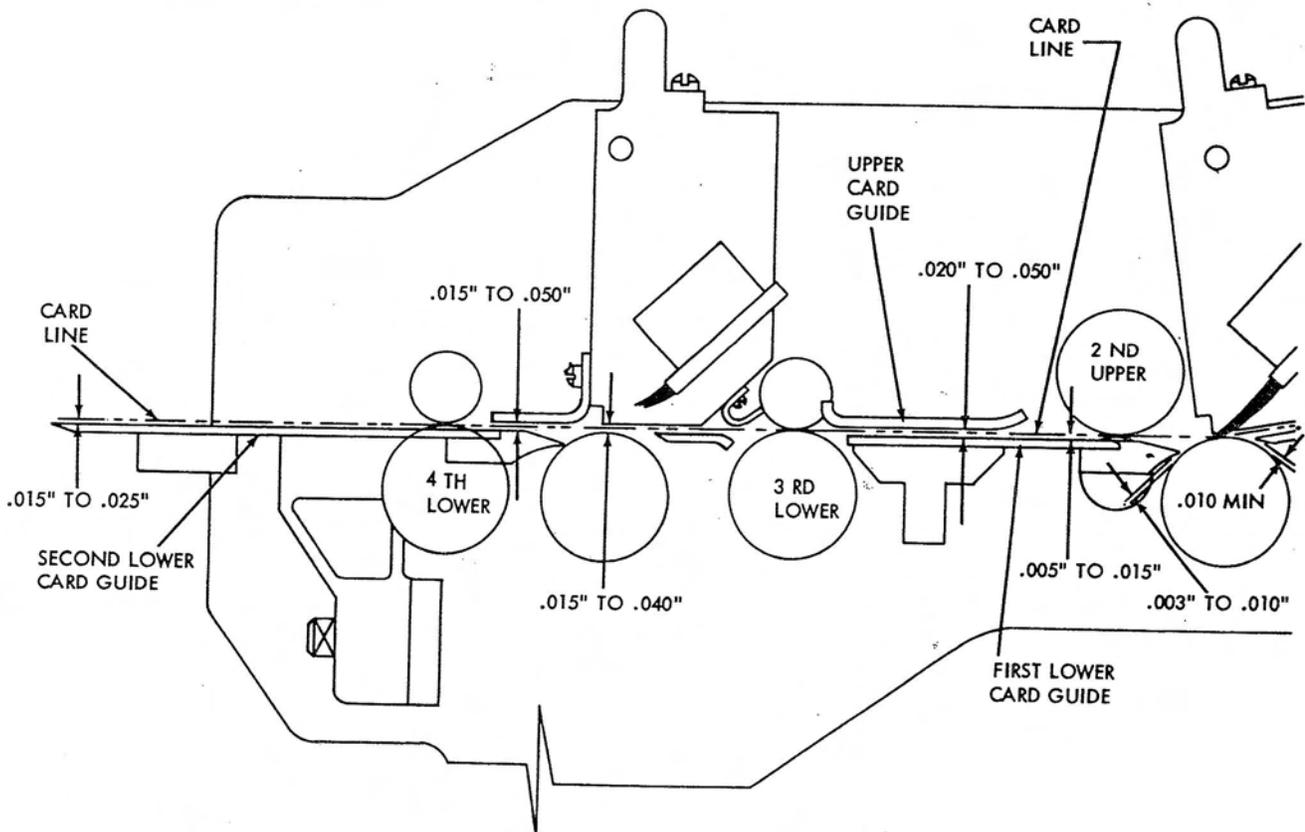

Figure 3-12. Reader Feed Adjustments
Refer to Figure 3-12 for card guide specifications.
1. Insert brush assembly into machine and check for $.015''$ to $.040''$ clearance between brush separator and contact roll with end to end variation $.015''$. See Figures 3-12 and 3-13.
4. Adjust brush assembly card guide for .015" to .050" clearance to lower card guide. See Figure 3-12.